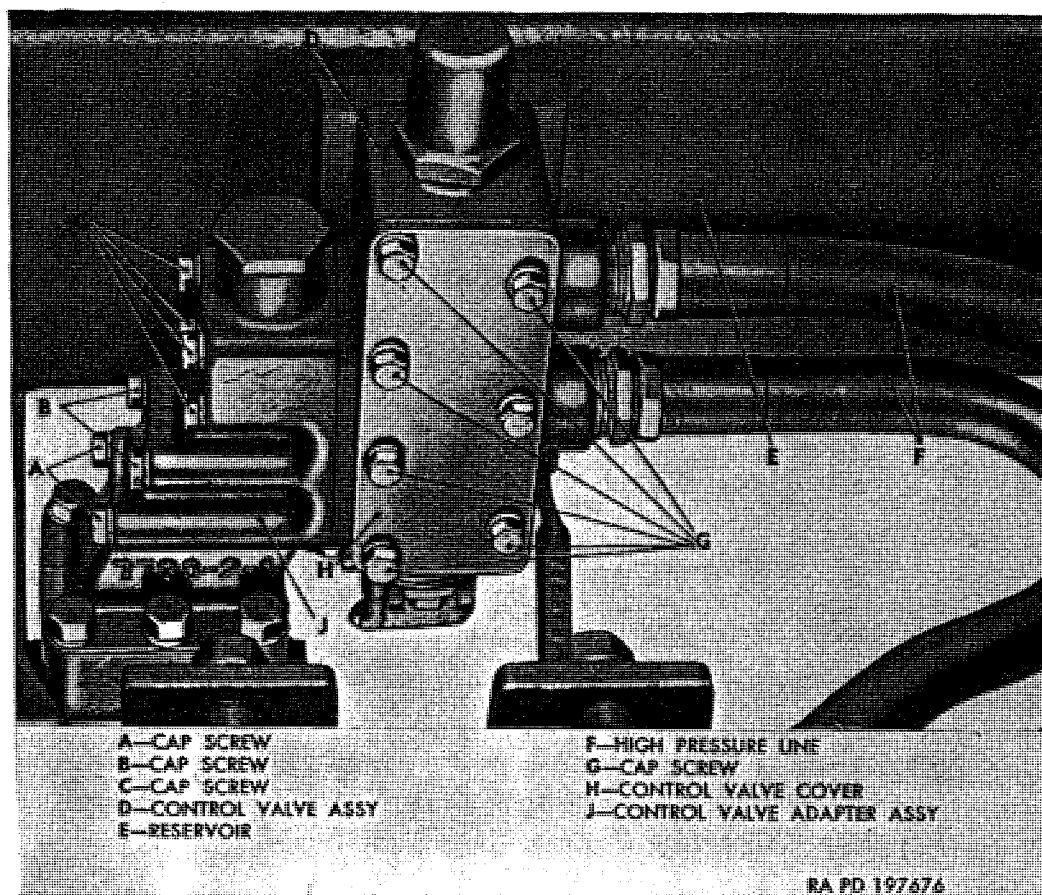
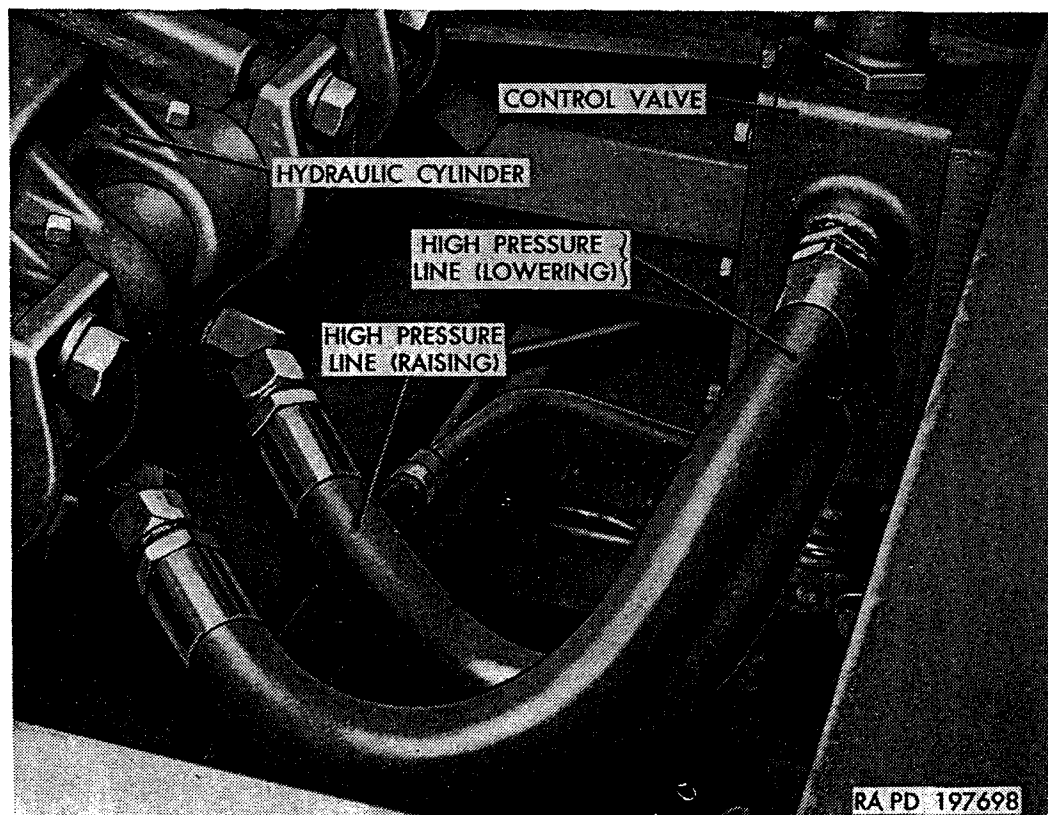

Figure 358. Control valve and valve adapter mounting.
Figure 359. Fluid pressure lines installed.
(fig. 358)
a. General. Control valve adapted assembly is mounted between control valve and crossover adapter as shown in figure 358. Adapter provides a means for fluid passage between control valve and crossover adapter.
- (1) Remove hoist pump (par. 331*b*).
- (2) Remove crossover adapter (par. 332*b*).
a. General. Control valve assembly (D, fig. 358) is mounted on fluid reservoir at front of subframe. Control valve assembly contains a spool-type valve which is operated by linkage to control fluid as necessary to raise, lower, or hold dump body.
- (1) *Raise body.* Operate body hoist and raise body until safety braces can be installed (par. 51d).
- (2) *Drain fluid.* Drain fluid from reservoir (par. 325c).
- (3) *Remove high pressure lines* (fig. 359). Remove two high pressure lines from fittings at base of hydraulic cylinder, then remove both lines from control valve.
- (4) *Remove pump and adapters* (fig. 358). Remove drive shaft from pump shaft (par. 331b(2)). Remove eight cap screws (A, B, and C) and lockwashers attaching adapter to control valve assembly; then remove pump, crossover adapter, and control valve adapter as an assembly. Remove and discard gasket.
- (6) *Remove control valve* (fig. 358). Remove seven cap screws (G) attaching control valve assembly (D) to reservoir (E). Remove control valve cover (H) and control valve assembly. Remove and discard gaskets used between cover and valve, and between valve and reservoir.
- (1) *Install control valve* (fig. 358). Position a new gasket at each side of control valve body; then position control valve cover (H) to valve body. Hold gaskets and cover by installing seven $\frac{3}{8}$ -24 x 4 cap screws (G) through valve body.
- (3) *Install pump and adapters* (fig. 358). Position pump and adapter assembly to control valve assembly, using new gasket. Install four $\frac{3}{8}$ -16 x $4\frac{1}{4}$ cap screws (C), two $\frac{3}{8}$ -16 x $3\frac{1}{4}$ cap screws (B), and two $\frac{3}{8}$ -16 x $2\frac{3}{4}$ cap screws (A), using one $\frac{3}{8}$ -inch lockwasher with each cap screw. Tighten cap screws alternately and evenly.
- (4) *Install high pressure lines* (fig. 359). Attach high pressure lines to openings in control valve and tighten. Attach lower line at control valve to left opening in cylinder, and attach upper line at control valve to right opening in cylinder. Tighten lines to prevent fluid leaks.
- (5) *Fill fluid reservoir*. Fill fluid reservoir as instructed in paragraph 325d.
- (6) *Lower body*. Lower body (par. 51b).